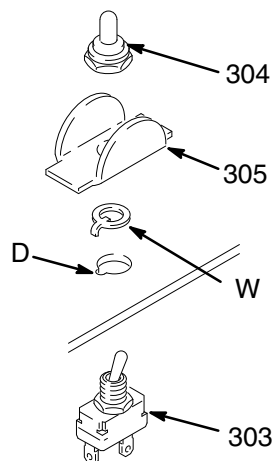

Fig. 16
**NOTE:** Refer to Fig. 16 for this procedure.
4. Using a 5/8 inch socket wrench, remove the nut and rubber boot (304). Remove the switch guard (305). See Fig. 16.
5. Remove the ON/OFF switch (303). See Fig. 16.
6. Install the new switch. The internal tab of the ring (W) must engage with the vertical groove in the threads of the switch. The external tab must engage with the blind hole (D) of the pressure control. See Fig. 16.
7. Install the guard (305). Align the internal tab with the groove in the threads.
8. Sprinkle talcum powder on the inside of the boot (304). Shake out the excess powder.